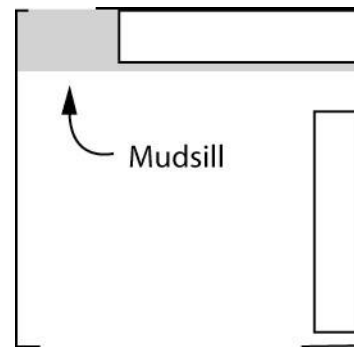

Fig. 1
- Prior to fastening the brackets to your hanging panels ensure they do not require trimming to fit above a garage mudsill. Shorten, or notch, any panels that may be affected to fit above or around the mudsill. (See Fig. 1.)